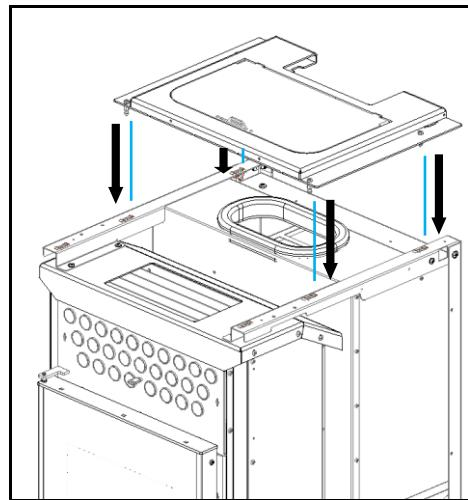

Figure 101 – Top cover placement
d) Then fit the lower holes **1** of the side covers into the guides **2** at the bottom of the machine, and then in the downward direction fit the tabs **3** into the slots **4** as shown in Figure 101.